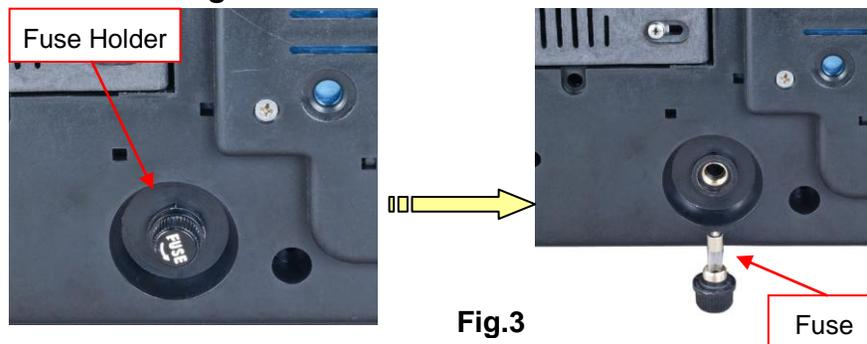

Fig.3
- 3) Turn the fuse holder counter-clockwise to take it off, replace the fuse, and then turn it on clockwise. See **Fig. 3**.